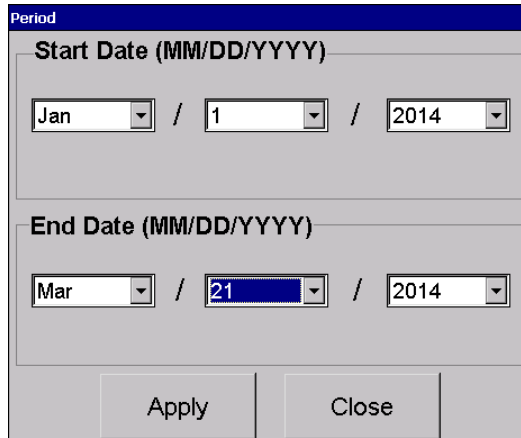

Figure 29: Period Screen
- d. Tapping [Period], available in ‘Critical – History’ and ‘Non-Critical’ modes, will open an enhanced screen shown in **Figure 29** to allow for the display of only alarms during a given range.